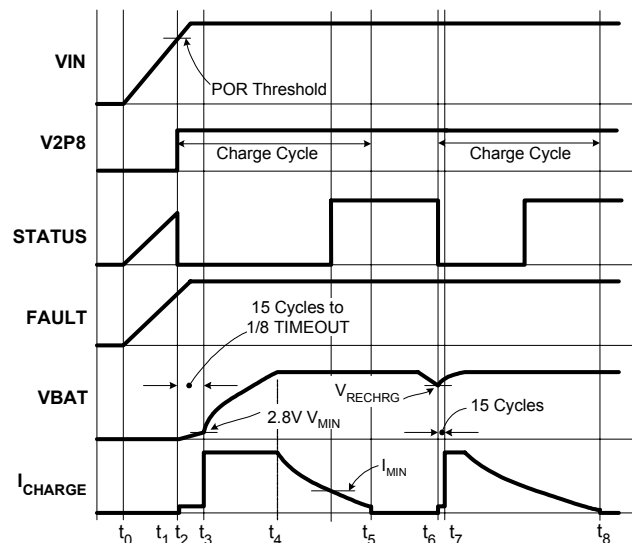

FIGURE 19. OPERATION WAVEFORMS
Figure 19 illustrates the typical signal waveforms for the linear charger from the power-up to a recharge cycle. More detailed Applications Information is given below.
The ISL6292 resets itself as the input voltage rises above the POR rising threshold. The V2P8 pin outputs a 2.8V voltage, the internal oscillator starts to oscillate, the internal timer is reset, and the charger begins to charge the battery. The two indication pins, STATUS and FAULT, indicate a LOW and a HIGH logic signal respectively. Figure 19 illustrates the start up of the charger between  $t_0$  to  $t_2$ .
A charge cycle consists of three charge modes: trickle mode, constant current (CC) mode, and constant voltage (CV) mode. The charge cycle always starts with the trickle mode until the battery voltage stays above  $V_{MIN}$  (2.8V typical) for 15 consecutive cycles of the internal oscillator. If the battery voltage drops below  $V_{MIN}$  during the 15 cycles, the 15-cycle counter is reset and the charger stays in the trickle mode. The charger moves to the CC mode after verifying the battery voltage. As the battery-pack terminal voltage rises to the final charge voltage  $V_{CH}$ , the CV mode begins. The terminal voltage is regulated at the constant  $V_{CH}$  in the CV mode and the charge current is expected to decline. After the charge current drops below  $I_{MIN}$  (programmable for the 4x4 and 5X5 package and programmed to 1/10 of  $I_{REF}$  for the 3x3 package, see End-of-Charge Current for more detail), the ISL6292 indicates the end-of-charge (EOC) with the STATUS pin. The charging actually does not terminate until the internal timer completes its length of TIMEOUT in order to bring the battery to its full capacity. Signals in a charge cycle are illustrated in Figure 19 between points  $t_2$  to  $t_5$ .
After a charge cycle completes, charging is prohibited until the battery voltage drops to a recharge threshold,  $V_{RECHRG}$  (see Electrical Specifications). Then a new charge cycle starts at point  $t_6$  and ends at point  $t_8$ , as shown in Figure 19. The safety timer is reset at  $t_6$ .
The trickle mode charge has a time limit of 1/8 TIMEOUT. If the battery voltage does not reach  $V_{MIN}$  within this limit, a TIMEOUT fault is issued and the charger latches up. The charger stays in trickle mode for at least 15 cycles of the internal oscillator and, at most, 1/8 of TIMEOUT, as shown in Figure 19.
The end-of-charge current  $I_{MIN}$  sets the level at which the charger starts to indicate the end of the charge with the STATUS pin, as shown in Figure 19. The charger actually does not terminate charging until the end of the TIMEOUT, as described in the Total Charge Time section. The  $I_{MIN}$  is set in two ways, by connecting a resistor between the IMIN pin and ground, or by connecting the IMIN pin to the V2P8 pin. When programming with the resistor, the  $I_{MIN}$  is set in the equation below.